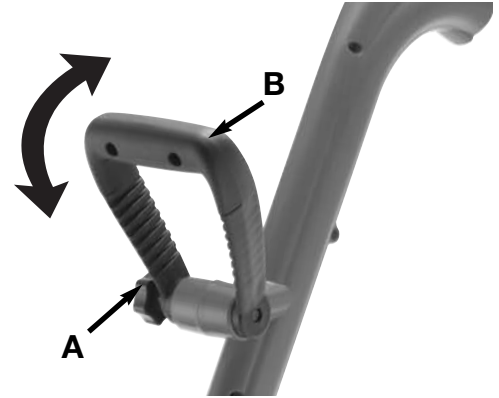

Fig. 3
1. Loosen the knob (A) on the assist handle (B). (Fig. 3)